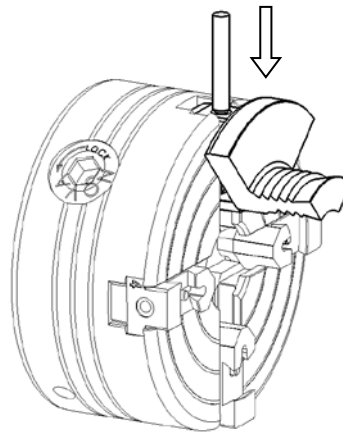

Figure 4
4. With the jaws opened to their outermost position, push in the Lock Push Pin on the back of the Jaw Side using the pin in the end of the Chuck Key Handle to release the locking mechanism (Figure 4).